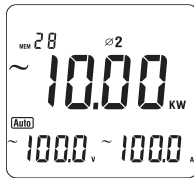

Figure 9
- After sum up the current power measurement value of the first phase, then press **SELECT** to choose the second phase $\varnothing 2$, as figure 9.